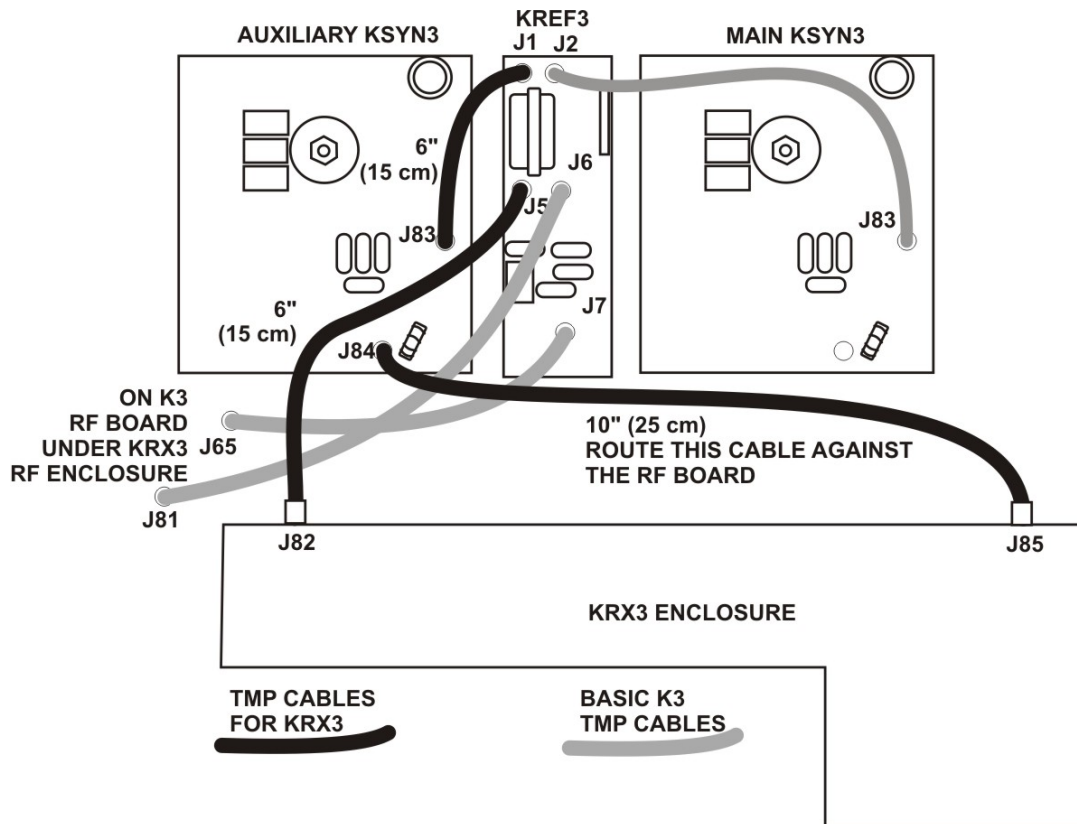

Figure 10. TMP Cable Connections
□ Reconnect the TMP cables to the KSYN3 board(s) as shown in Figure 10. Ensure all the cables are properly seated.